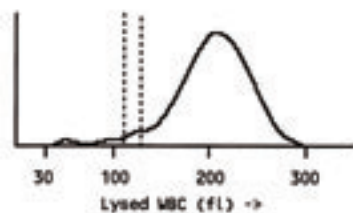

Figure 5.2
- The histogram and data in Figure 5.2 are representative of a typical steroid response.
Examples are shown in Figures 5.2 and 5.3 in WBC Differential Distribution Abnormalities. This is due to the most common pathologic leukocyte responses, steroid and/or inflammatory. When the granulocyte population has a mode of >190 fl, the differential analysis is highly reliable. Normal lymphocytes will not move into the granulocyte region. On rare occasions, blast cells in a leukemia may occur in the granulocyte region because they are highly unpredictable in all analytical systems.